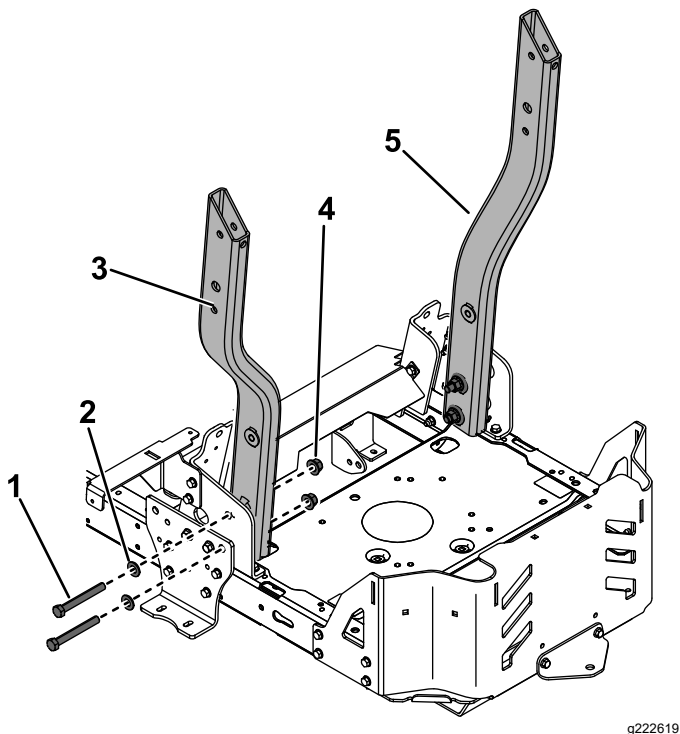

Figure 4
3. Loosely install the left and right lower roll bar tubes using 2 bolts (1/2 x 4 inches), 2 washers, and 2 locknuts (1/2 inch) for each tube (Figure 4).